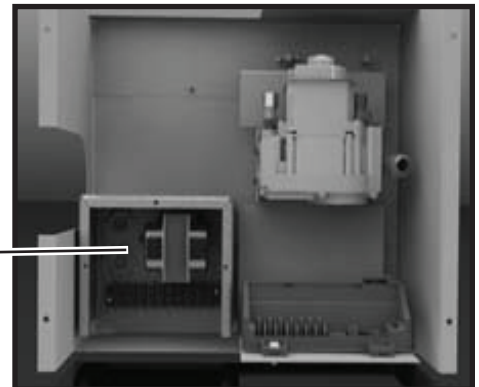

Figure 26: Electrical connections.
5. Run two 110 V. AC switched electrical supplies to the control box and connect to the terminal block installed inside the control box (Figure 26). The fireplace operates on 24V AC supplied by a transformer rated at 110 volts, 60Hz. See wiring diagram on page 29 for correct connections on terminal block.